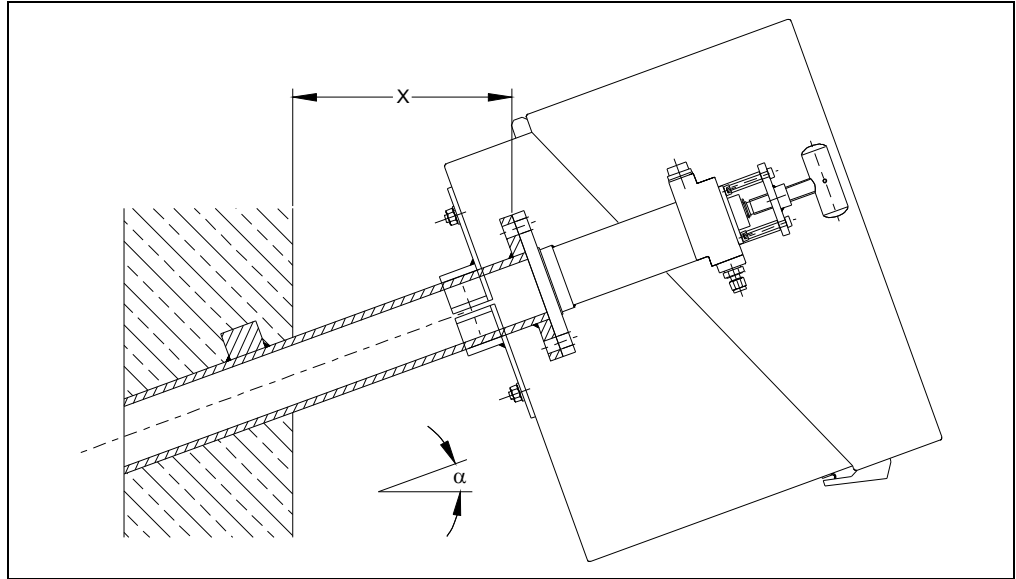

Figure 2
- Probe tube type 40 (see Figure 2): Insert the pre-assembled probe with filter unit into the wall tube and screw the flange of the filter unit to the mounting flange.